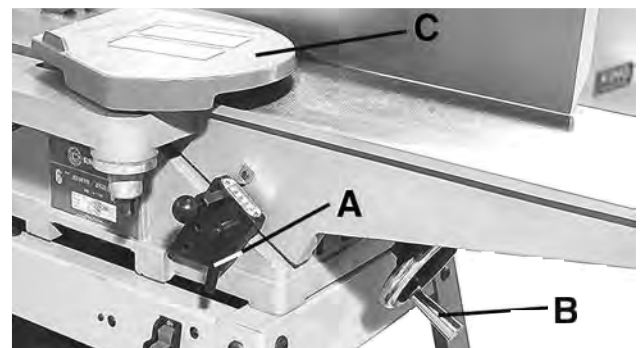

FIGURE 30
2. Loosen lock lever (A) Fig. 30, and lower the infeed table by turning handwheel (B). Remove cutterhead guard (C).